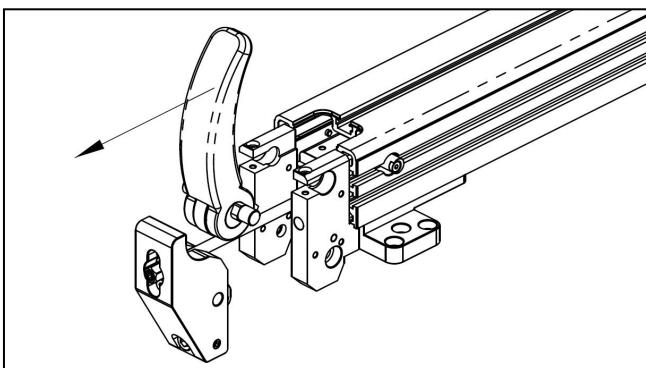

Fig. 38
8. As shown in Fig. 38, remove the handle assembly.